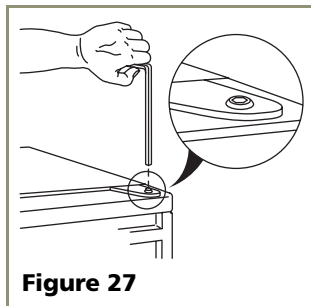

Figure 27
1. Remove top hinge screw pin (7/64" Allen wrench or Phillips screwdriver, depending on your unit's construction, see **Figure 27**). Remove door by tilting forward and lifting off bottom hinge pin.